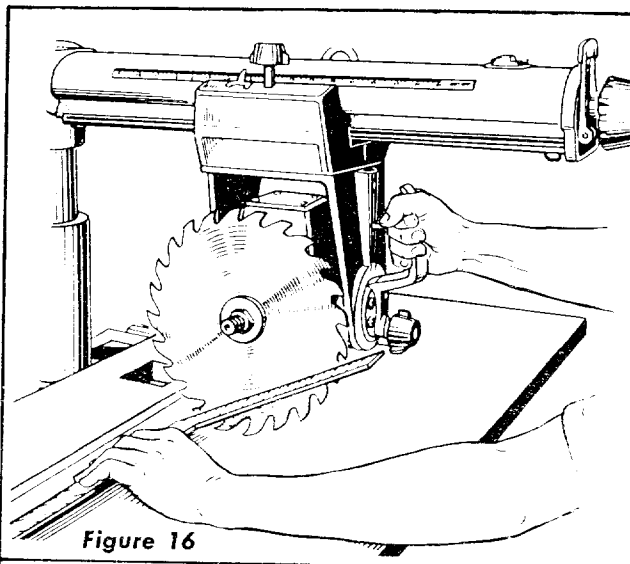

Figure 16
- Place a square against the rip fence and the saw blade as shown in Figure 16. Square must be held firmly against the rip fence and the blade of the square must not touch any of the teeth on the saw blade.
- To correct for heel, proceed with items 4 through 10.